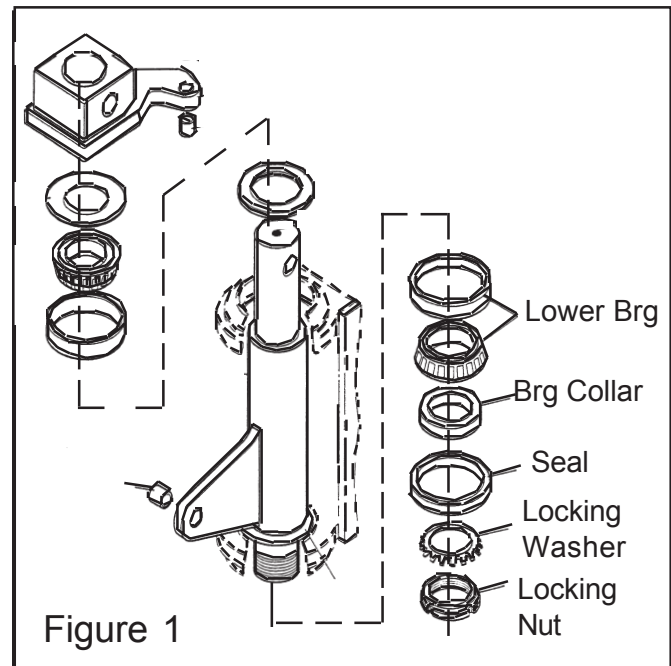

Figure 1
3. Utilize a continuous 1/4" weld to attach the bottom of the gusset to the lower crossmember between the two crossmember bolts on each side of the tractor as illustrated in figure 1 and in the assembly drawing provided with the kit. Weld both sides of gusset.